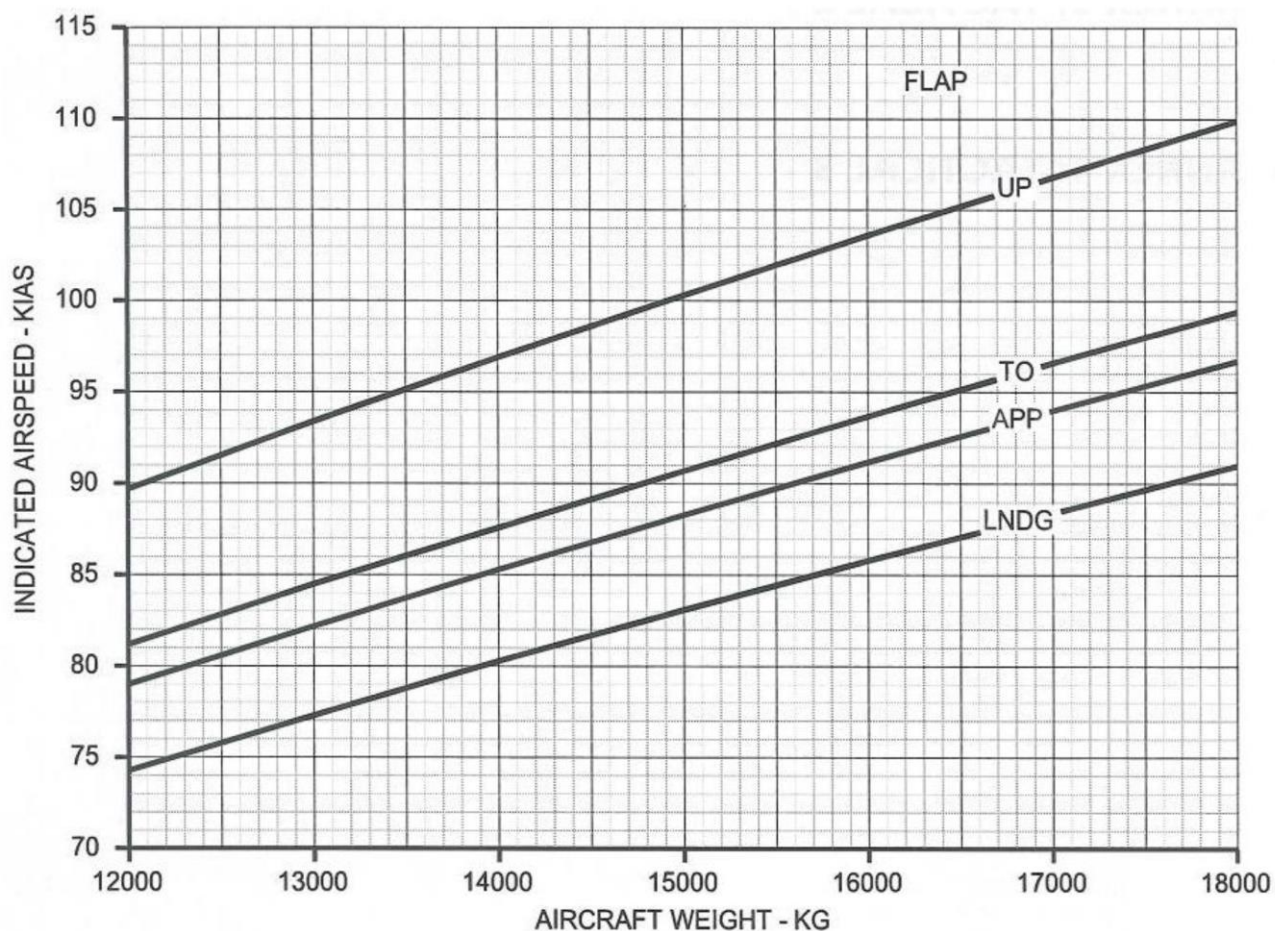

Figure 2.2.1 –  $V_{SR}$  SPEED
- Check that pusher speed values are between  $V_{SR}$  (the established ones in Figure 2.2.1.) and  $V_{SR}-5$  KIAS, for all stalls performed.